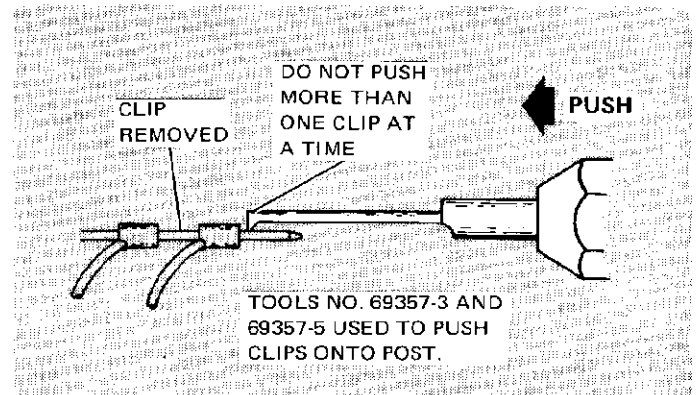

Figure 3
- (b) Position flat tip of tool against clip on post. See Figure 3. NOTE: *TO INSURE CONTACT RELIABILITY, THIS TOOL SHOULD NOT BE USED TO PUSH MORE THAN ONE CLIP AT A TIME.*